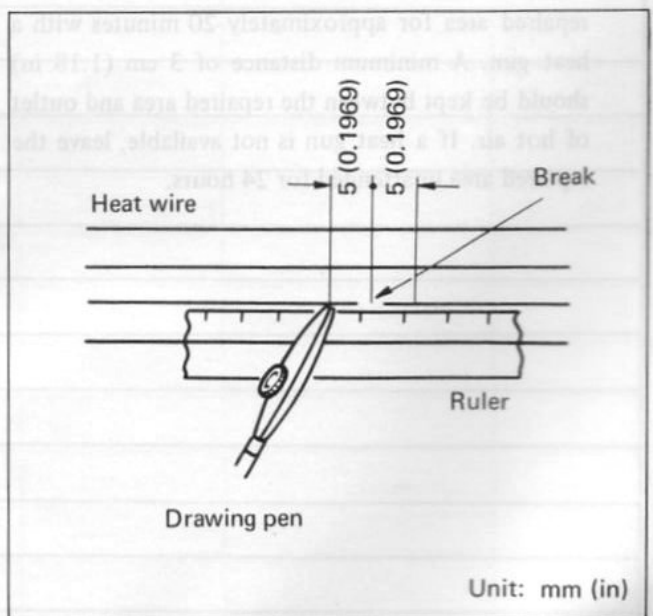

Fig. BE-47 Locating ruler in position
- Place ruler on glass along broken line to be repaired as shown in Figure BE-47. Deposit conductive silver composition to break line with drawing pen. Slightly overlap existing heat wire either side [5 mm (0.1969 in) preferable] of the break.